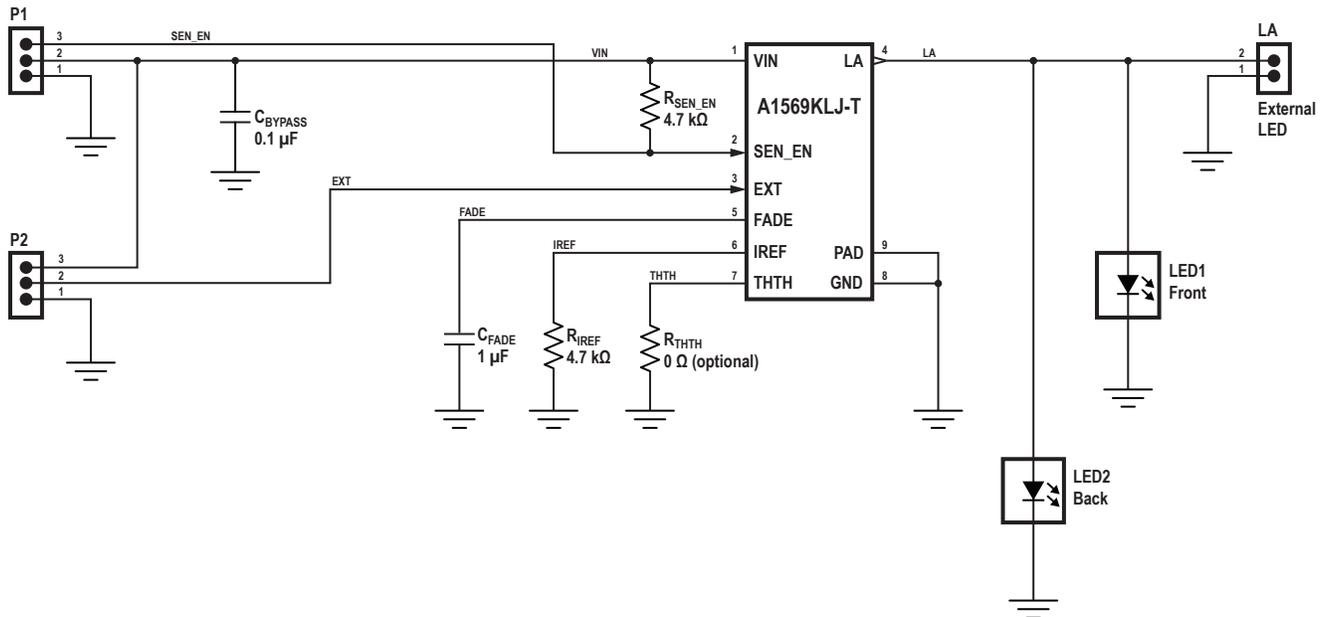
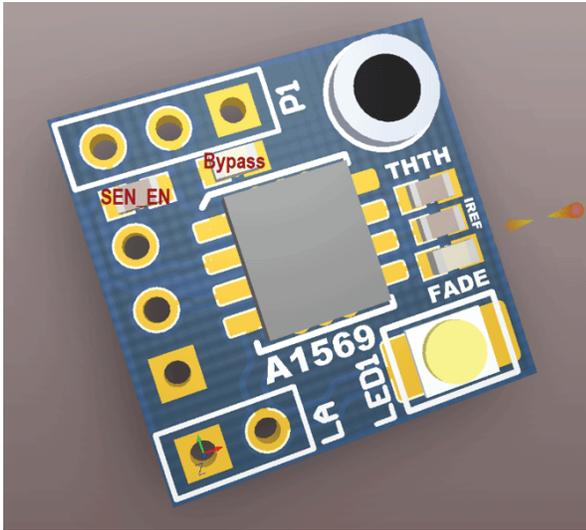
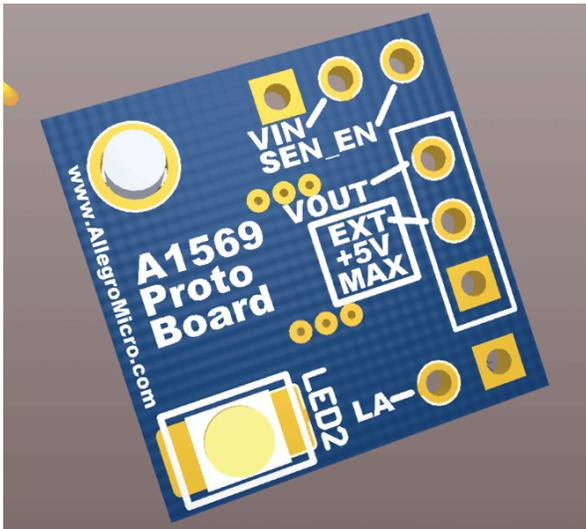

Figure 1: A1569 Proto Board Schematic
Figure 2: A1569 Proto Board – Top
Figure 3: A1569 Proto Board – Bottom
The A1569 Proto Board is a small two-layer double-sided PCB with the A1569 mounted on the front of the board. All of the basic components are provided. If the A1569 Proto Board is ordered with an LED installed (see below), the only requirement is to connect power (VIN) and ground (GND) via two of the through-hole connections on P1 (see Figure 1, Figure 2, and Figure 3).
Through-hole connections are provided for all of the external connections that may be required for the target application. All of the through-hole connections with square pads, which are not labeled, are the ground connections. The remaining through-hole connections, the ones with round pads, are labeled for convenience on the bottom side of the board (see Figure 3).
A mounting hole for a #2 screw is also provided (see upper-right corner of Figure 2 and upper-left corner of Figure 3). This screw should be nonferrous to prevent interference with the operation of the Hall element.
the A1569 as shown in Figure 2), pre-installed on the back side of the board (the opposite side as the A1569 as shown in Figure 3), or with no LED installed (for the case where the LED will be remotely located from the A1569).
The basic connections are boxed and labeled P1 on the front of the board (see the upper-left corner of Figure 2). This is where the power and ground connections are made. By turning the board over, additional labelling can be seen (see the upper-right corner of Figure 3).
The through-holes for connecting the remote LED string are boxed and labeled LA on the front of the board (see the lower-left corner of Figure 2).
- The anode of the remote LED string should be connected to the remaining hole with the round pad (labeled LA on the back of the board; see Figure 3).
The connections for the external Hall element is boxed and labeled on the bottom of the A1569 Proto Board (see right-hand side of Figure 3).